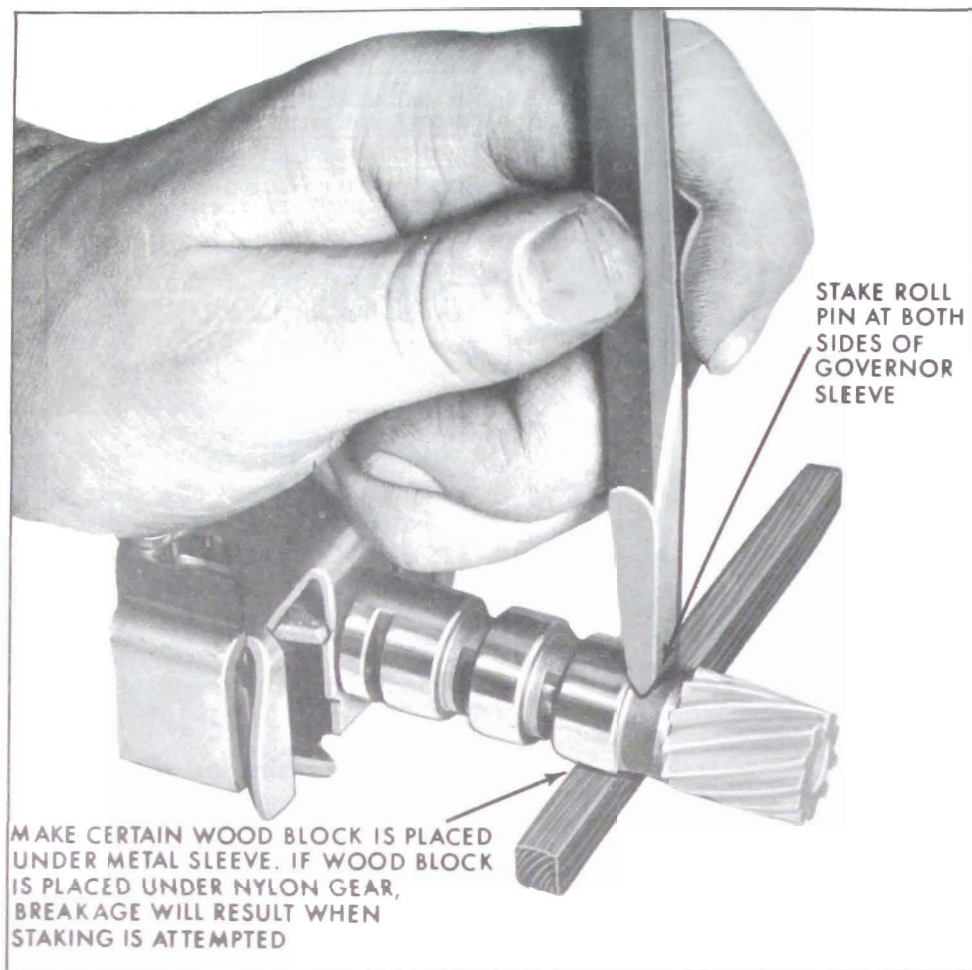

Figure 5-243
3. Support end of governor sleeve (not gear) on a wooden block. Install new roll pin; then using a small chisel, stake pin in place at both ends of pin to prevent pin from becoming loose. See Figure 5-243.